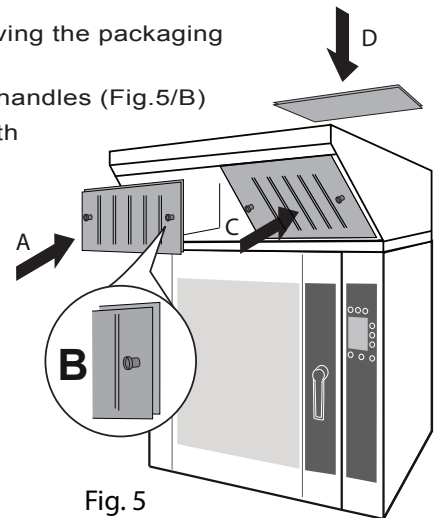

Fig. 5
1. Put the back panel into the proper guide (Fig.5/A) helping with the handles (Fig.5/B)
2. Put the two front panels into the proper guides (Fig.5/C) helping with the handles (Fig.5/B)
1. Lift the front filters and remove them from the guide (Fig.5/C).
2. Lift the back filter and remove it from the guide (Fig.5/A).
3. Turn the block system and remove the upper filter (Fig.5/D).